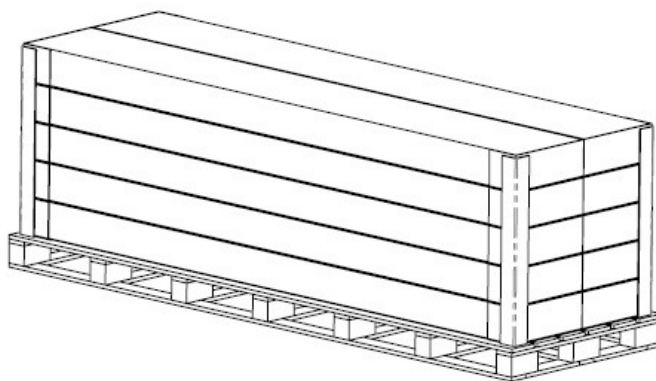

Figure 4. Standard pallet with 10 crates.
- Crates must not be stacked more than 5 crates high (refer to **Figure 4**).